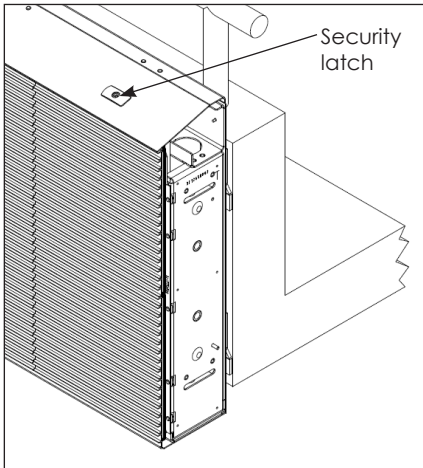
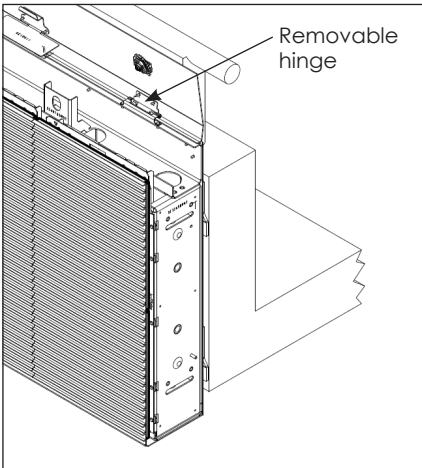

Figure 37: Beverage Shroud Security Latch
Figure 38: Beverage Shroud Removable Hinge
2. Use the 1/4" nutdriver (Daktronics part number TH-1042) and 5/16" hex security bit (TH-1170) supplied in the toolkit to release the beverage shroud security latches. The beverage shroud may be left on in a flipped-up position or removed by rotating it up and unhooking the spring-loaded hinge pins. Refer to **Figure 37** and **Figure 38**.